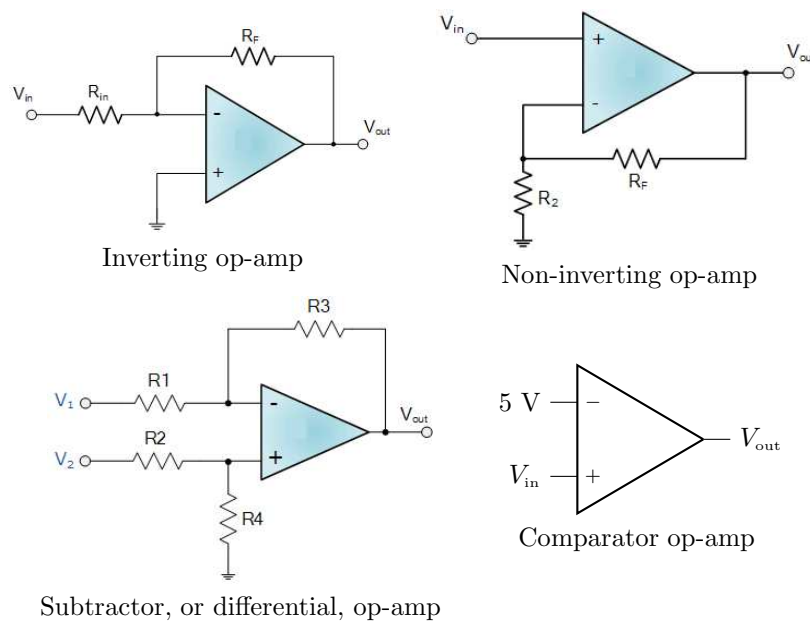

Figure 2.2: Op-amp circuits.
- Attach to your report a hand-written demonstration of the input-output relation of each of the four circuits you will build in class, shown in figure 2.2.
7. Build the comparator op-amp circuit. Connect the signal generator to V_{in} , the AD laboratory's +5 V DC power supply to the op-amp as shown in figure 2.2, V_{in} to channel X in the oscilloscope, and the circuit's output to channel Y. Adjust the vertical and time scales so that you can see two periods on screen, sketch what you see, and provide passing comments.